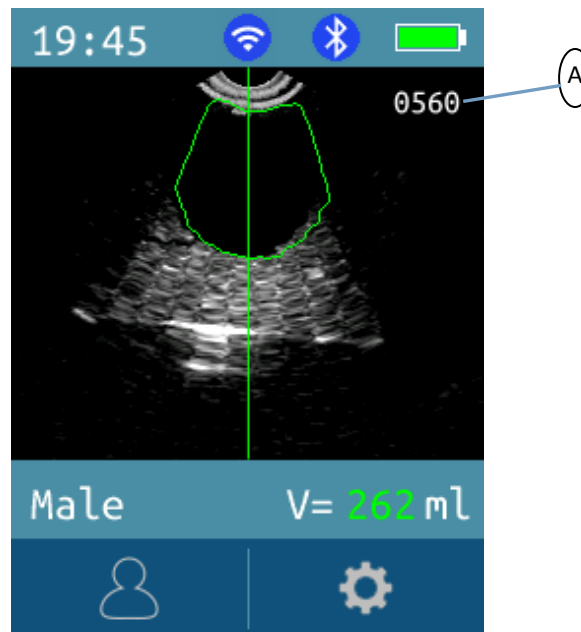

Figure 5-10-4 M2-W Instrument calibration interface
Click the Calibrate bar to switch the calibration status: turn on (ON) or close (OFF). If the state is opened, it will return to the main interface (Figure 5-10-4), and the current image calibration value will appear in the upper right corner of the image when pre scanning. If it is closed, it will not appear.